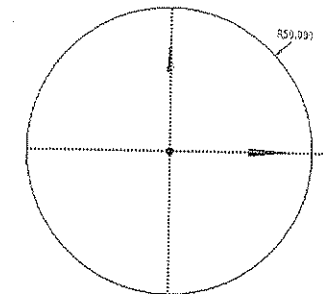

Figure 3-86 The circle after editing the dimension value
12. Enter 50 in this edit box and press the ENTER key; the radius of circle changes to 50 mm and is displayed in the **Graphics** window, refer to Figure 3-86.